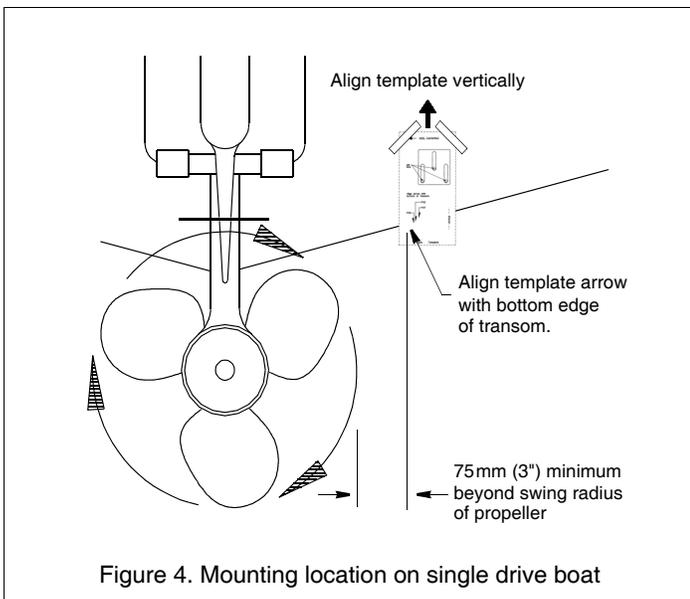

Figure 4. Mounting location on single drive boat
- **Single drive boat**—Mount at least 75mm (3") beyond the swing radius of the propeller (see Figure 4). The starboard side where the propeller blades are moving downward is preferred.
2. At the location selected, position the template so the arrow is aligned with the bottom edge of the transom. *Being sure the template is parallel to the waterline, tape it in place* (see Figure 4).